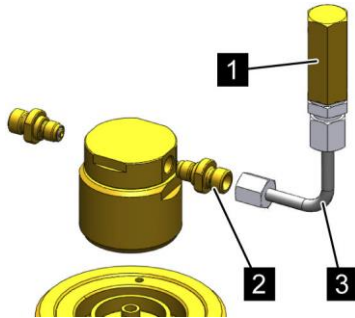

Fig. 67: Mounting the malfunction pressure safety device
2. ➤ Install the adapter (Fig. 67/2) at the outlet of the last pneumatic release device in the pilot line in such a way that the "malfunction pressure safety device" (Fig. 67/1) can be screwed onto the adapter connector piece (Fig. 67/3) from above.
3. ➤ Screw the "malfunction pressure safety device" (Fig. 67/2) directly onto the adapter connecting piece or onto the adapter connecting piece that is fitted onto the pipe segment.